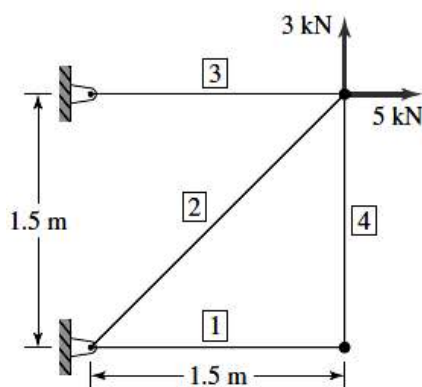

Fig 5
5. The plane truss shown in Figure 5 below is composed of members having a square $15 \text{ mm} \times 15 \text{ mm}$ cross section and modulus of elasticity $E = 69 \text{ GPa}$. Determine the global stiffness matrix and write down the FEA formulation showing the nodal forces.